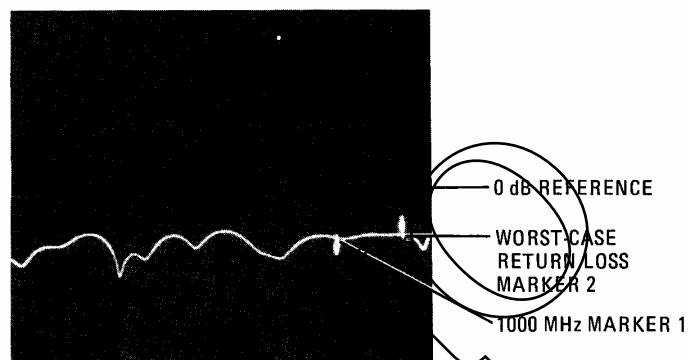

Figure 4-12. Port Return Loss (1000 - 1300 MHz)
- (1) Remove short and connect dual Directional Coupler directly to 8503A port R with all other 8503A ports terminated.
- (2) Move 8505A Frequency Control MARKER 2 to worst-case Return Loss between 100 and 1300 MHz as Indicated on CRT (the point closest to calibration line to the right of MARKER 1 as shown in Figure 4-12).